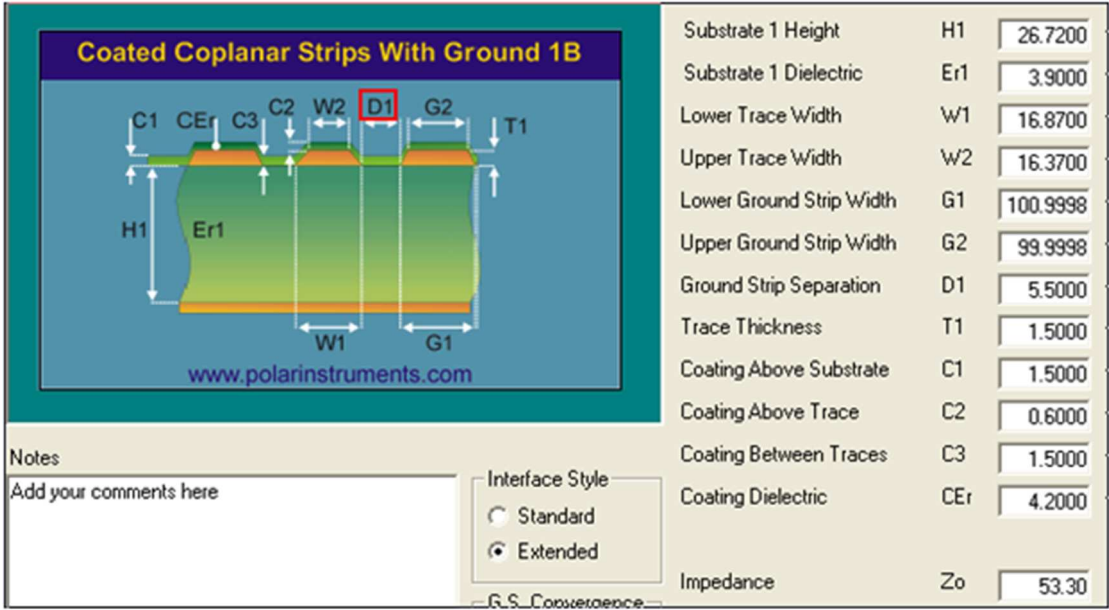

Figure 3-2
26.74mils. Using an online impedance calculator, the line width under the NAD for a 53 ohm line is 16.87 mils .Figure 3-2